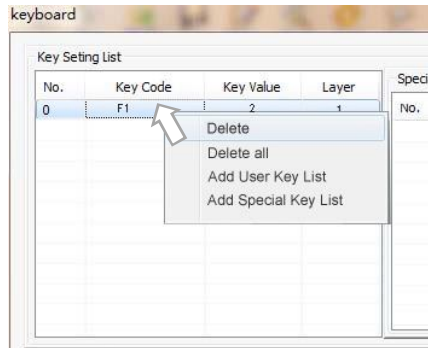

Figure 3.1.4
**Step 3.** Move your mouse cursor on F1 of Key Code field and right-click your mouse. It will show drop-down menu as *Figure 3.1.4* and select “Delete”.